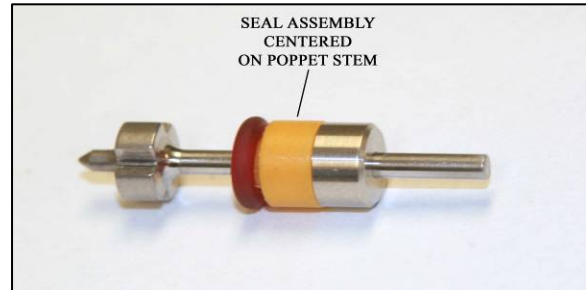

Figure 6
- Slide the Seal Buttress (100062-1) on the poppet shaft with the chamfer facing away from the Poppet tip. The seal assembly and buttress should be centered as much as possible on the stem. **See Figure 6**